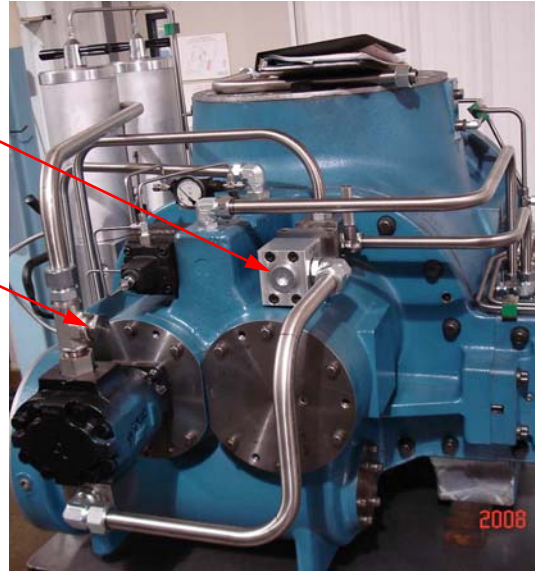

FIGURE 7: DUPLEX OIL SYSTEM - PRE-LUBE/OIL PUMP BLOCK
3.21 Pump 1 quart (1 L) of the VpCl corrosion-inhibitor/oil mixture into the plugged port on the block bolted to the oil pump inlet (see Figure 7).
3.22 Pump 1/2 quart (0.5 L) of the VpCl corrosion-inhibitor/oil mixture into the prelube connection (see Figure 7).